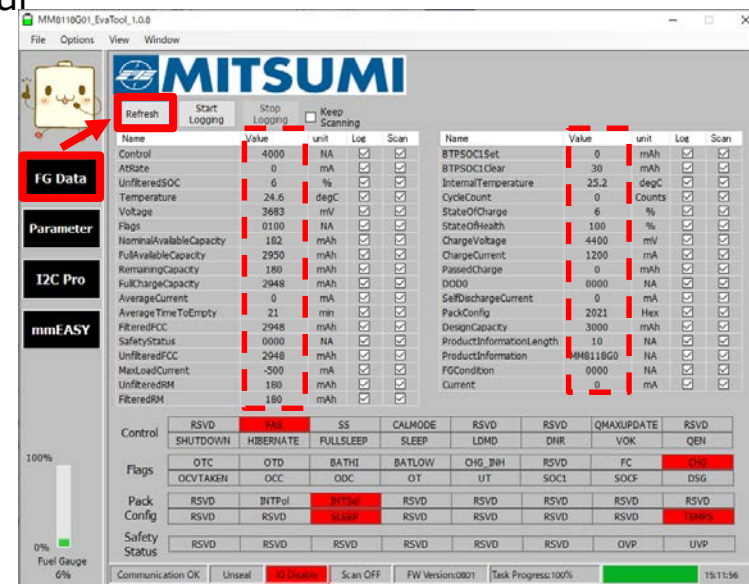

Figure 7. FG Data screen
4. When the communication is successful, the current data is displayed in Value. (Figure 7)